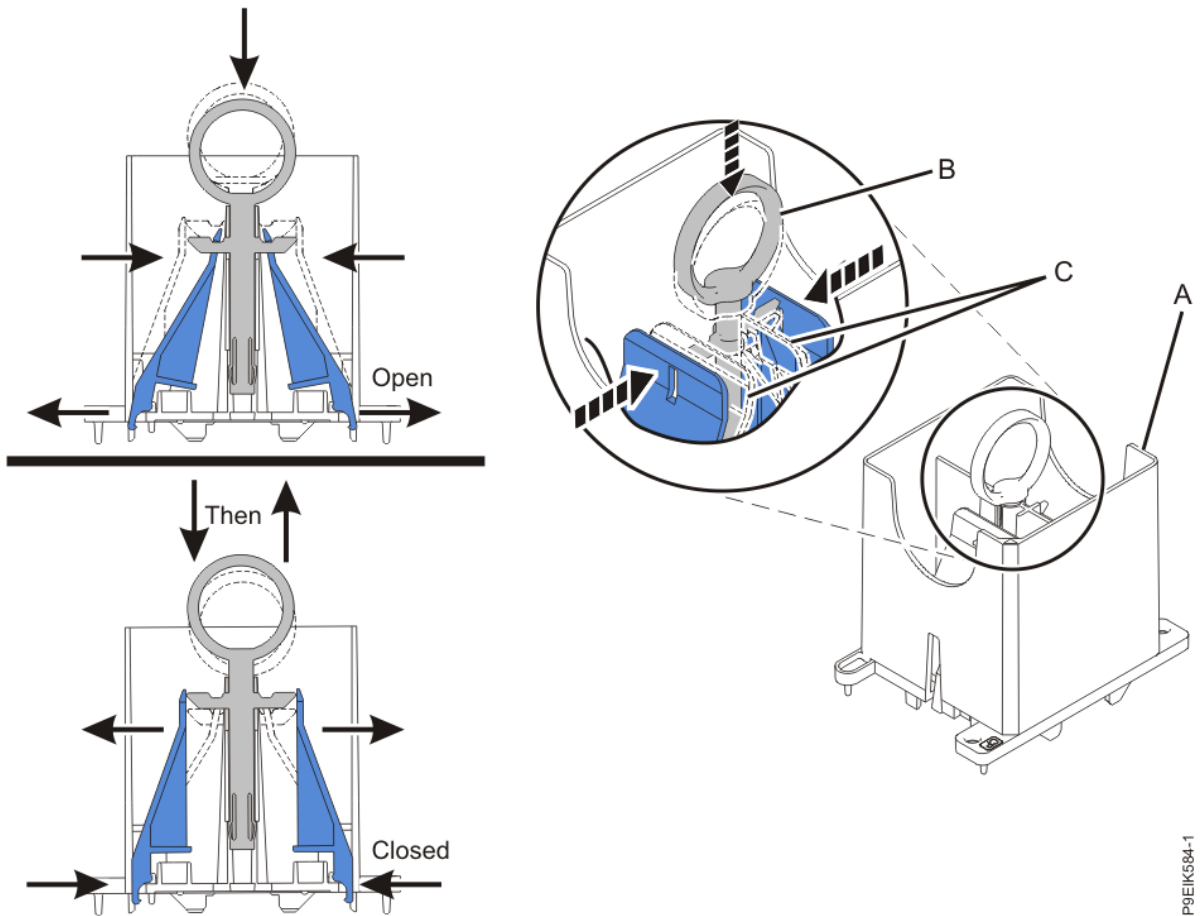

Figure 221: Ensuring that the removal tool is in the open position
- a) Ensure that the removal tool is in the open position as shown in Figure 221 on page 268. The middle ring must be pushed down and blue tabs must be turned inward.